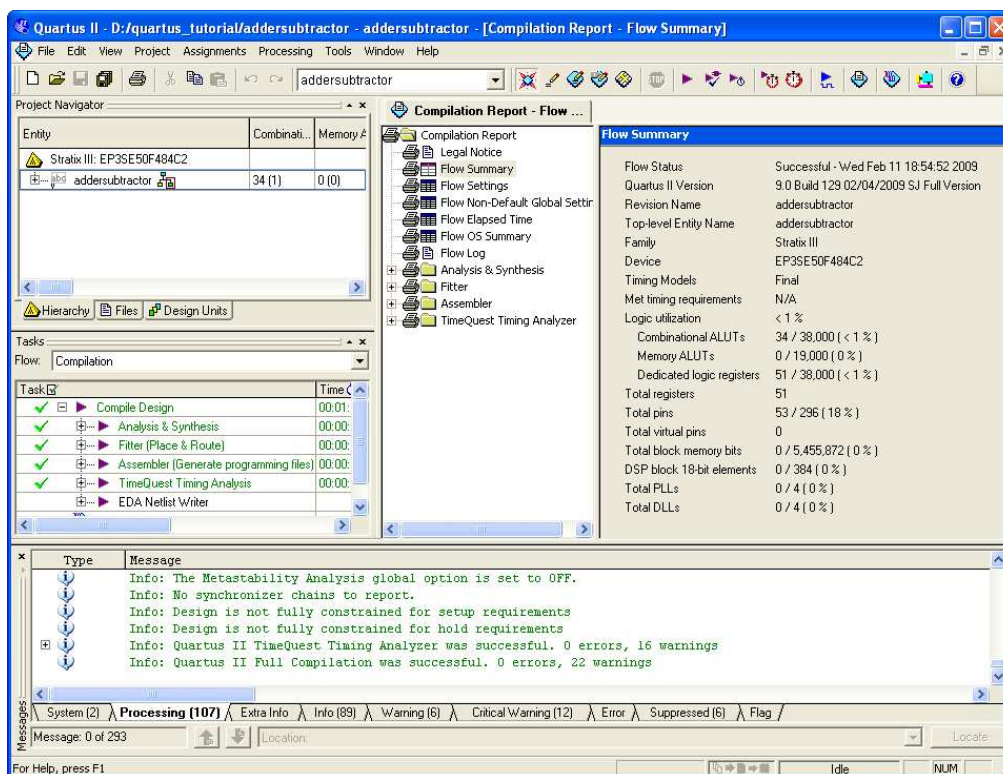

Figure 40: The main Quartus® II display.
The Quartus® II display contains several utility windows which can be positioned in various places on the screen, changed in size, or closed. In Figure 19, which is reproduced in Figure 40, there are five windows.
1. To see the usefulness of this window, open the previously compiled project *quartus\_tutorial\addersubtractor.qpf* to get a window similar to Figure 40.